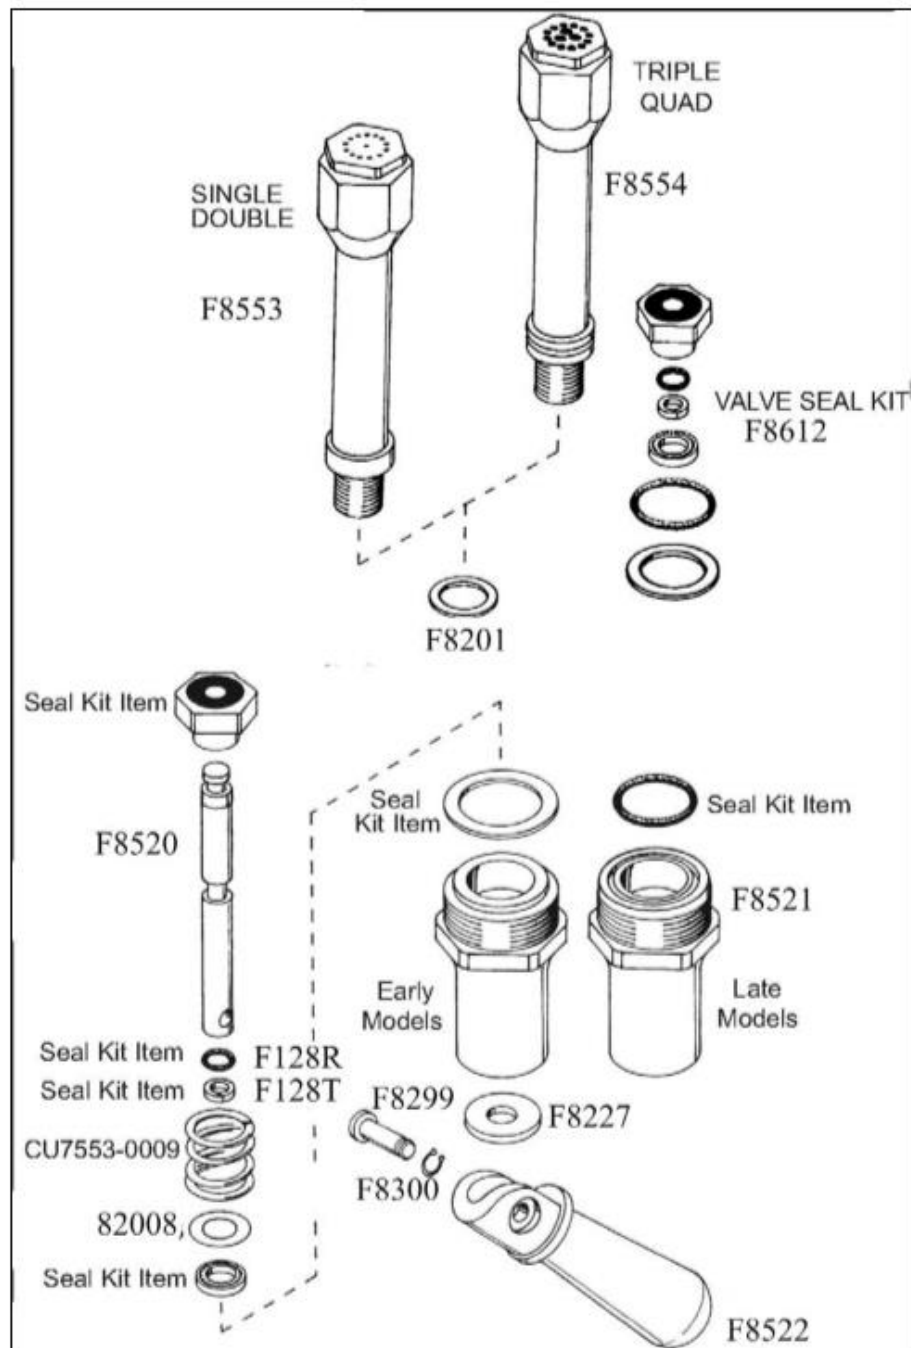

Figure 3: LIQUID FIRE VALVE
3. LIQUID FIRE VALVE: Figure 3